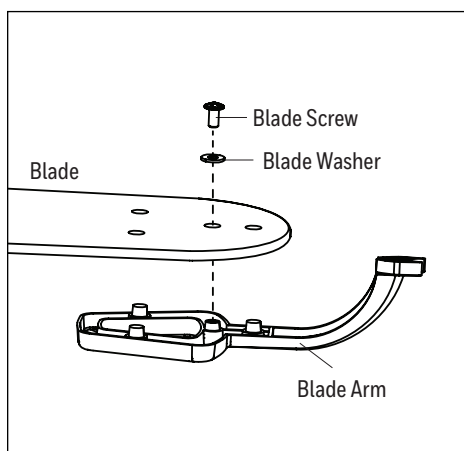

Figure 4.4
4. Align blade arm studs with their corresponding holes in the blade and then insert the blade screw, blade washer to attach one blade arm to a blade. Tighten the blade screw. Repeat this step for the remaining blades and blade arms (Figure 4.4).